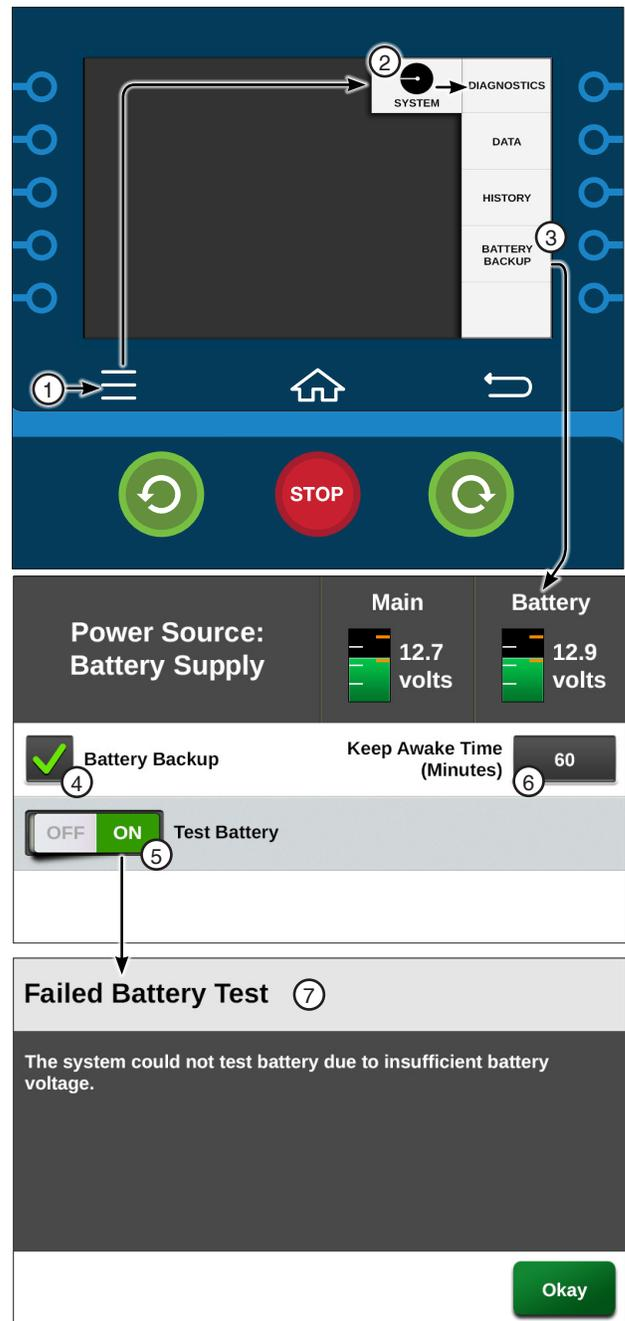

Figure 67-1
The Battery Backup screen provides the ability to keep the ICON, SRB and telemetry awake for a set amount of time while the fault is sent to BaseStation. The Battery Backup screen also monitors the voltage from the main power source and the battery. The range of each voltage measurement is indicated by orange marks along one side of the volt meter. Battery Backup requires additional hardware. Refer to Figure 67-1.
If the backup battery has insufficient voltage the Test Battery Dialog screen will appear. Refer to Figure 67-1.
1. Push **Menu**, **System** and **Battery Backup** to display the Battery Backup screen. Refer to Figure 67-1.